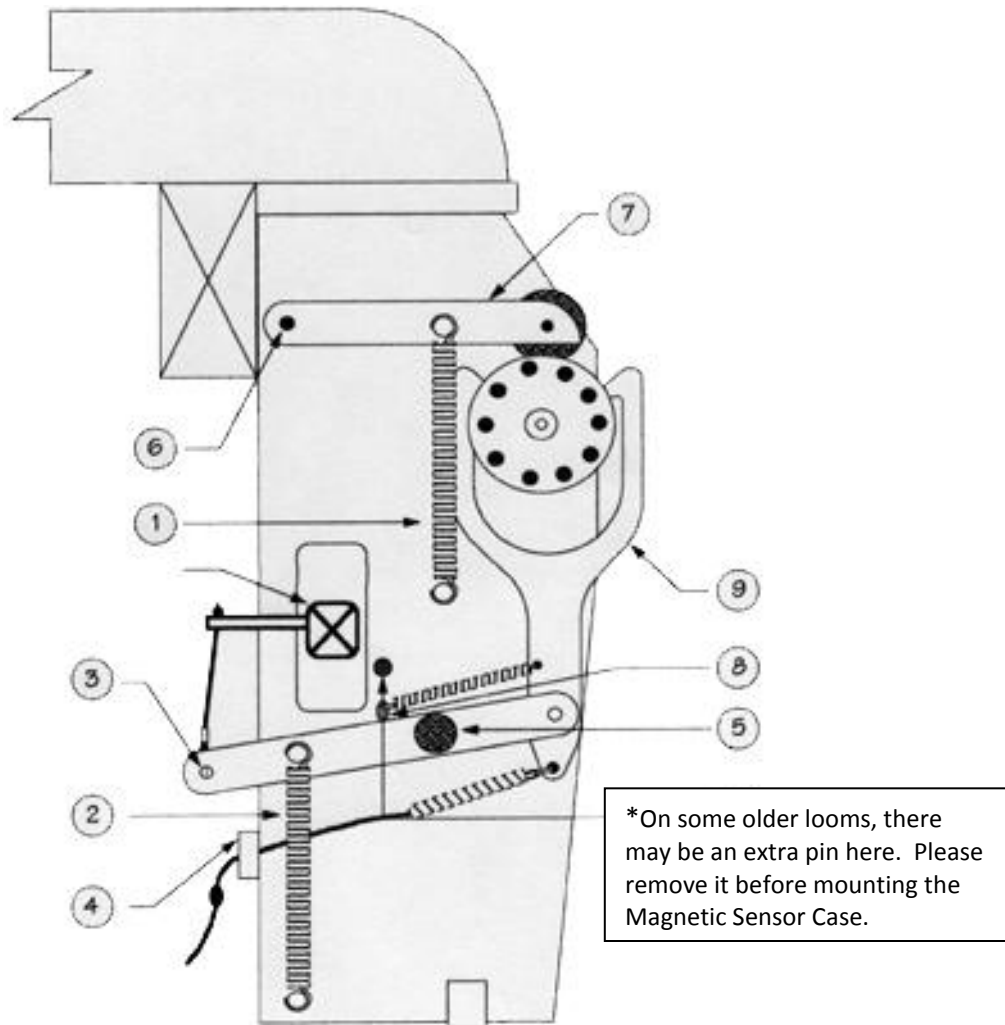

Figure 2: Dobby Head
2.2.1 From the left side of the Dobby (see Figure 2):
The Magnetic Dobby Arm Sensor (see Image 3) is the unit that sends signals to the Compu-Dobby and tells it whether the harnesses (dobby arm) are up or down. It has two slots. One slides over the bottom pin of Spring #1 (see Figure 2). The other slot is held in place by a screw that replaces the center brace screw of the dobby.